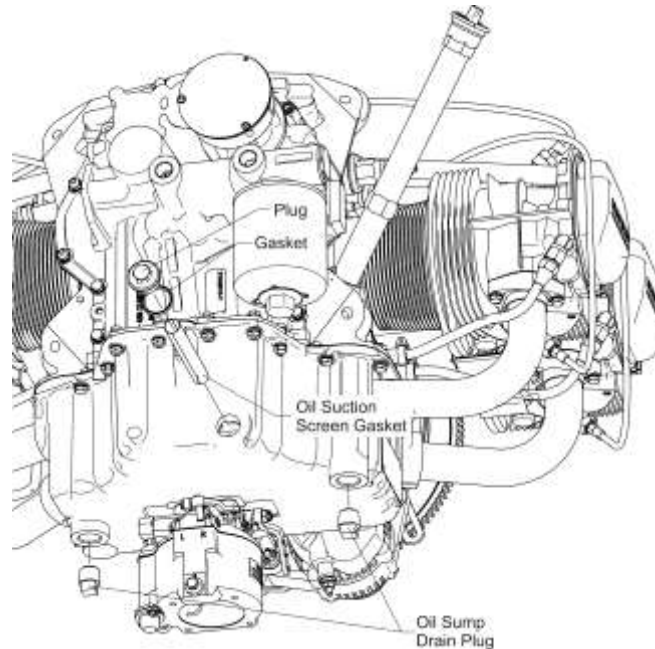

Figure 2
- (1) Place a 15-quart capacity container under the drain plug of the oil sump.
- (2) Have a clean oil sample vial prepared to collect oil after a few ounces of oil have drained.
- (3) Remove the safety from the oil drain plug.
- (4) Remove the oil drain plug (Figure 2).
- (5) Connect oil drain hose if available.
- (6) Allow a few ounces of oil to drain and collect an oil sample. Refer to the “Oil Sample Collection” procedure.